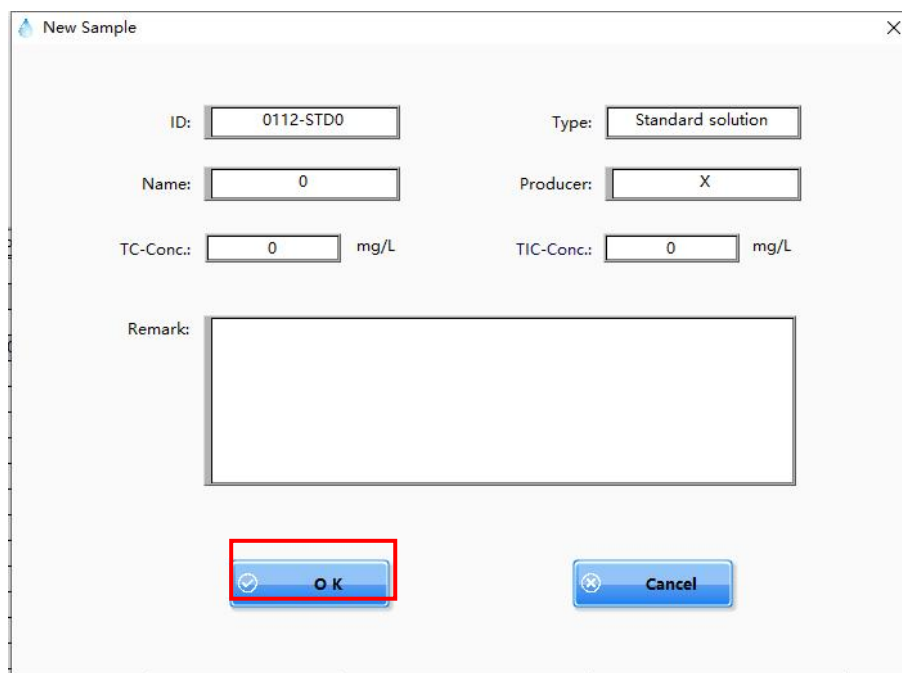

Fig 4.8
2. Click  (Fig 4.7) to enter the interface 'New sample' (Fig 4.8).